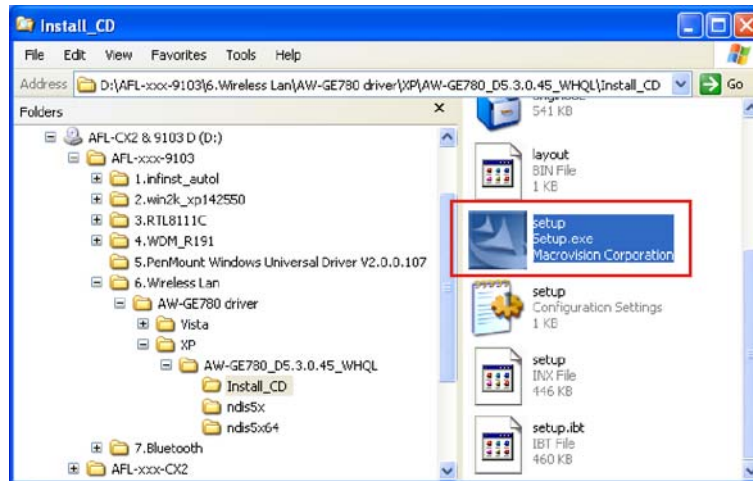

Figure 6-27: Software Driver Folder
Step 2: The browser window appears (Figure 6-27).
Step 3: Double-click the **Setup** icon to start the InstallShield wizard (Figure 6-27).